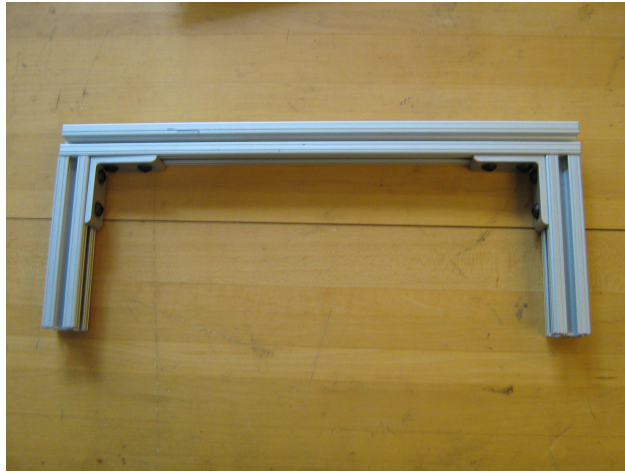

Figure 4: Completed rollbar.
- (c) Your completed rollbar should look like the one in Figure 4.